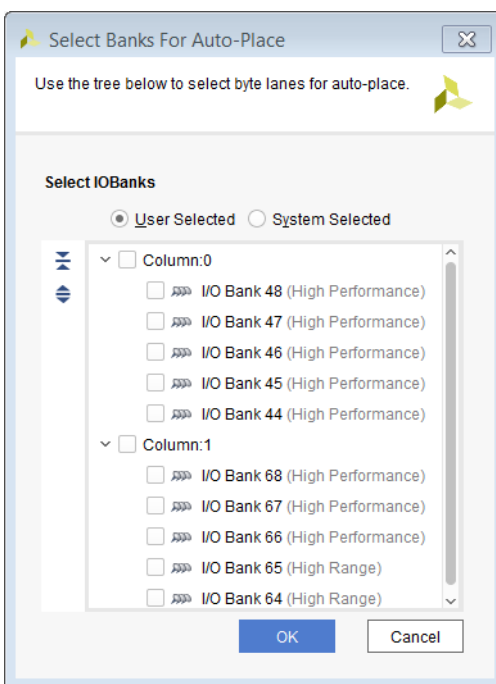

Figure 4-13: Selecting I/O Banks for Auto-Placement
3. In the Select Banks for Auto-Place dialog box (Figure 4-13), select one of the following options: